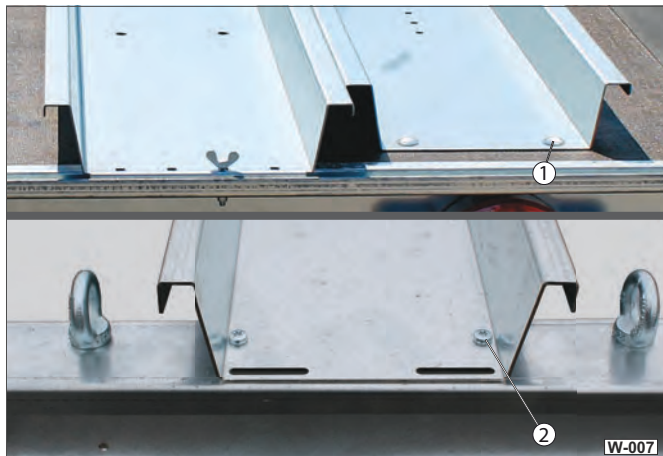

**Fig. 6** Checking stand bracket
- ▶ After every transport, check the bracket support (Fig. 6 /1) is still fastened securely and not deformed.
- ▶ Regularly check (at least every 6 months) the screw connections (Fig. 6 /2) are securely fastened.